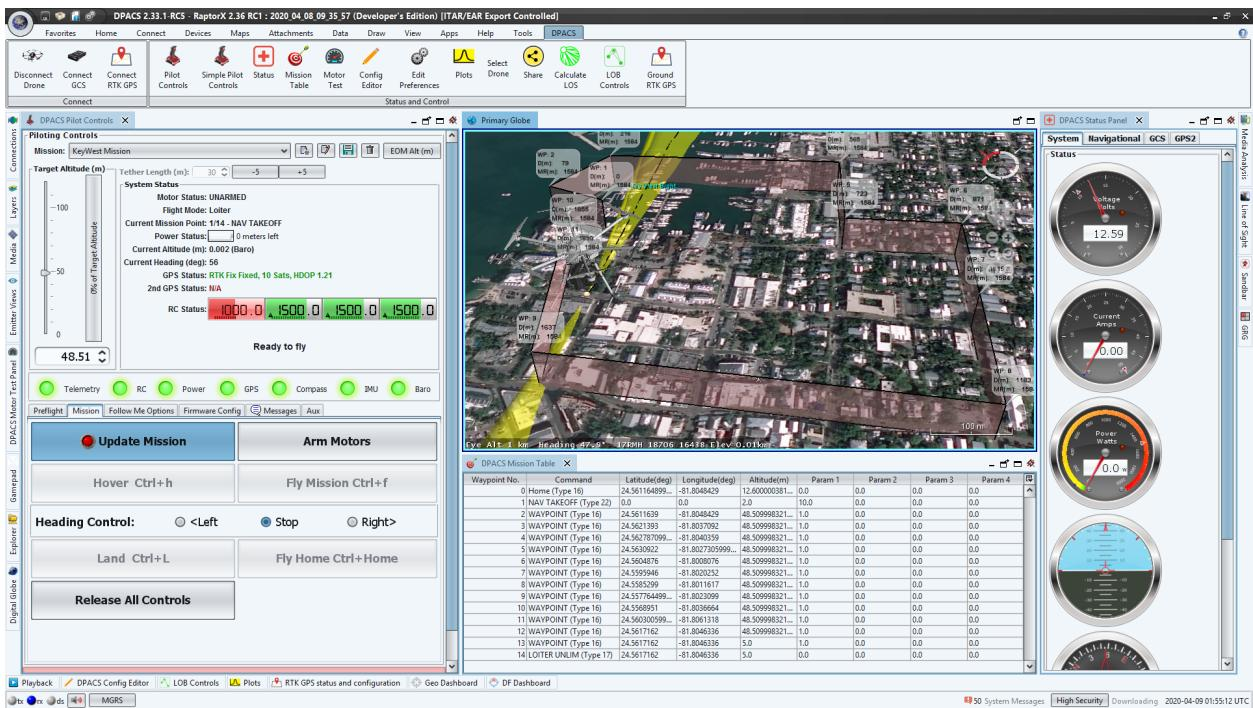

Figure 35 - DPACS Mission Table displayed after updating mission
5. Click on the “Update Mission” and verify the altitudes and the general waypoint positions in the Mission Table as shown in Figure 35.